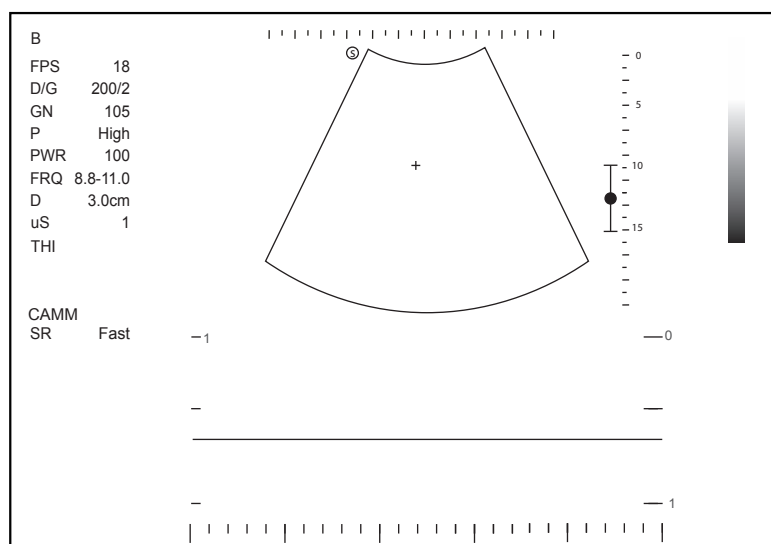

Figure 6-14 Curved Anatomical M-Mode Imaging Screen
1. In the activated M mode, tap **CAMM** on the touch screen to enter the curved anatomical M-mode. The cross cursor appears on the image as shown in Figure 6-14.